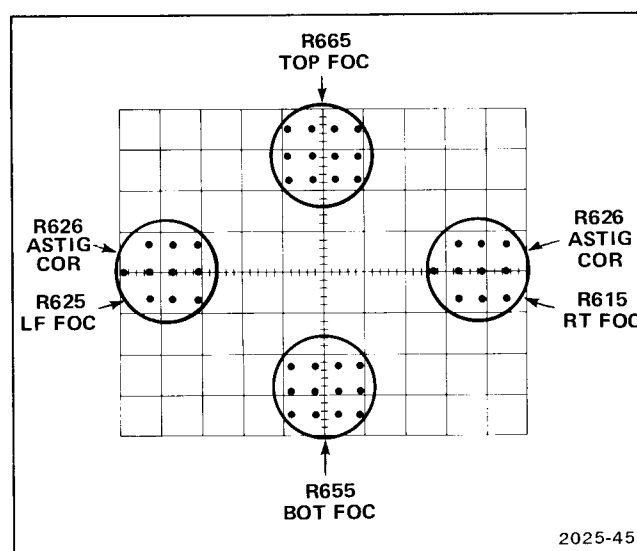

Figure 6-6. Focus and astigmatism adjustments corresponding to the appropriate area of the dot display.
- ADJUST—Refer to Fig. 6-6. Adjust the focus correction adjustment, corresponding to the appropriate area of the dot display, for well-defined symmetrical dots. Use the X and Y offset controls to position the dot display to the appropriate area of the graticule.
- ADJUST—R626 (Astig Cor) for symmetrical dots on the left and right side of the graticule (refer to Fig. 6-6).
c. ADJUST—Refer to Figure 6-6. Position the displayed dot to the appropriate display area and adjust the corresponding focus correction adjustment for a well-defined symmetrical dot.
d. ADJUST—Position the displayed dot to the left and right side of the graticule. Adjust R626 (Astig Cor) for a symmetrical dot (see Fig. 6-6).